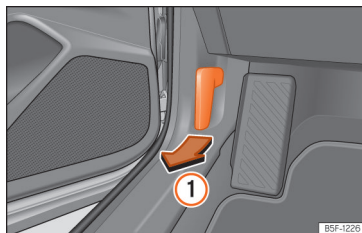

Fig. 218 Release lever in the driver's footwell area.
- Open the door and pull the lever that is underneath the instrument panel »» **Fig. 218** ①.